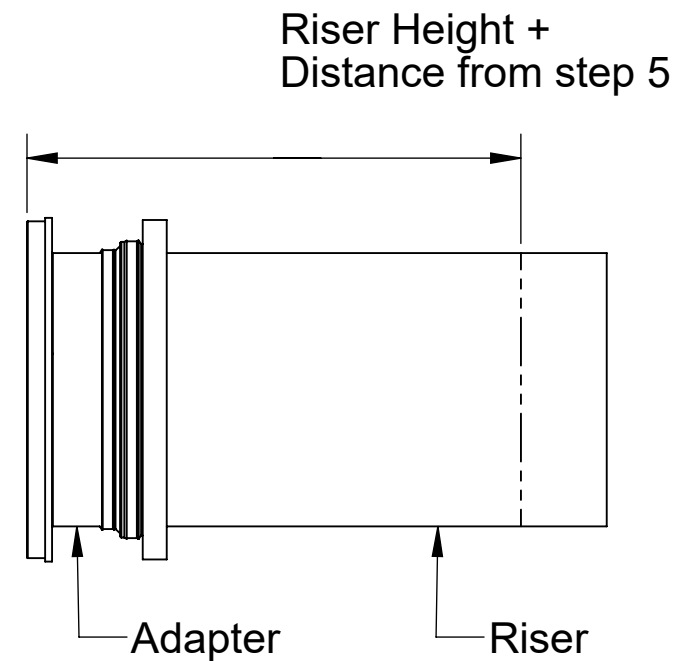

Figure 2
5. From the top of the adapter, measure your needed total riser height downward to the sidewall of the riser. Then, add 5" (for OS-35 or OS-50) or 6" (for OS-75, or OS-100). For example, if you have a OS-100 and need a 15-1/2" extension, you would measure down from the top of the adapter 21-1/2" (15-1/2" + 6" = 21-1/2"). See Figure 2.